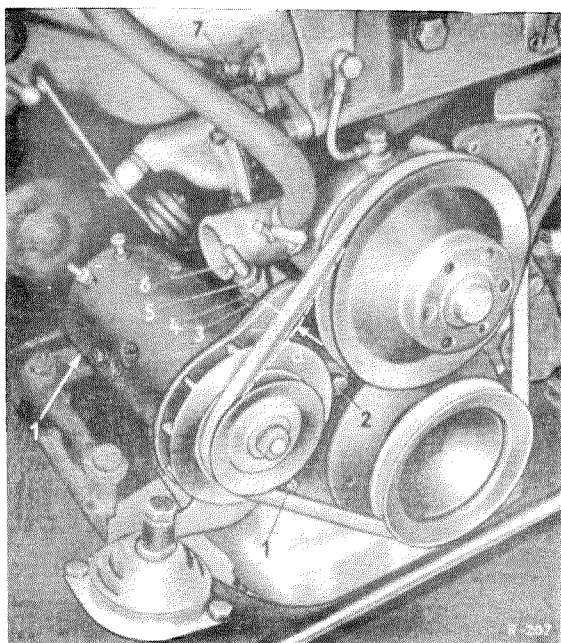

Fig. 15 — 11/1
2. Remove the nuts of the generator mounting (1) and the clamping device nuts (2 — 6), and turn the clamp nut (4) far enough to the right to allow the generator Vee-belt to be removed (Fig. 15 — 11/1).
Note: In the first version, the generator is supported at the front and the rear between two rubber washers, and the tensioning screw at the bottom at the crankcase is similarly supported between two rubber washers. In the second version, however, (as of Engine No. 65 004 76) only the generator is supported at the front between two rubber washers (Fig. 15 — 11/3).